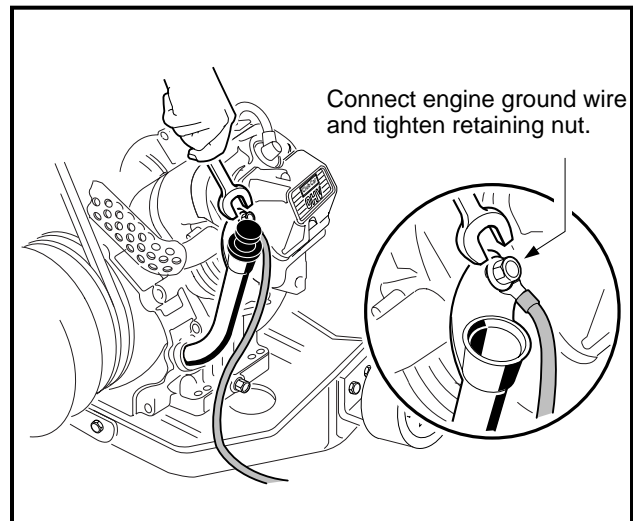

Figure 16-98 Engine Ground Wire
23. Attach the ground wire to the mounting screw on the oil filler tube mounting bracket and tighten to 50 in-lb (5.7 N·m) (**Figure 16-98, Page 16-38**).